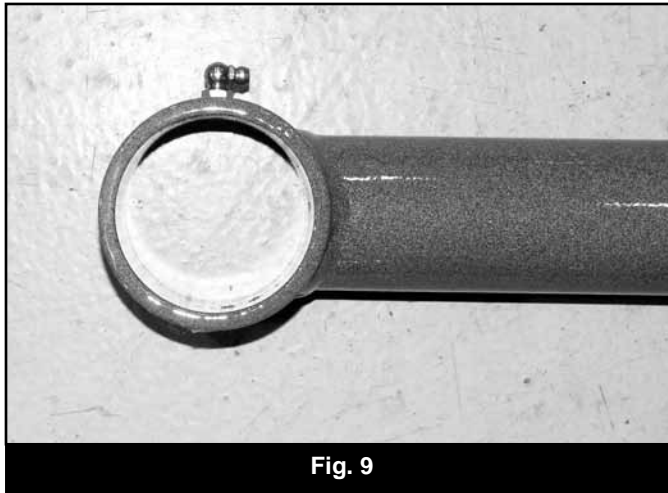

Fig. 9
35. Install the provided 90° grease fittings in the threaded holes at the bushing end of the control arms. When installed the fittings should point toward the body of the control arm. (Fig. 9)